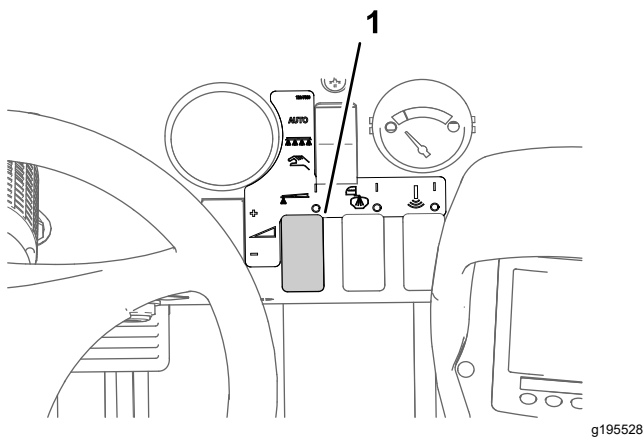

Figure 47
8. Use the application-rate switch to achieve the desired spray pressure as indicated in the nozzle-selection guide provided with the sprayer (Figure 47).